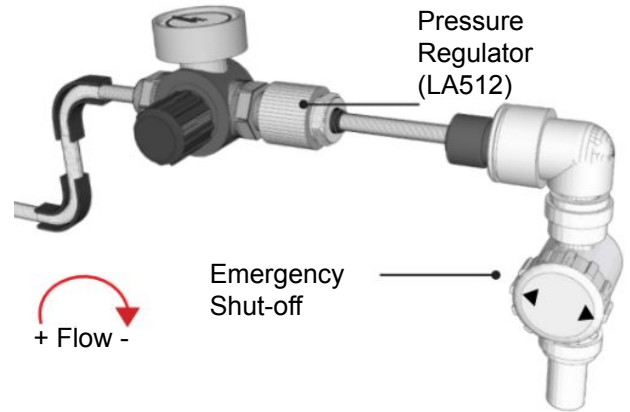

Fig 1
4. REDUCE pressure on Pressure Regulator TURN the dial anticlockwise to - 0 bar. (Fig 1)